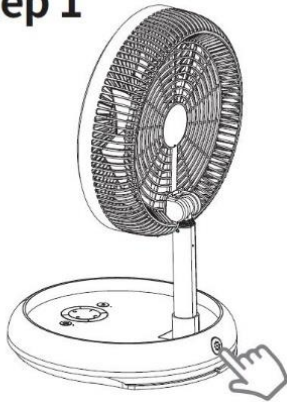
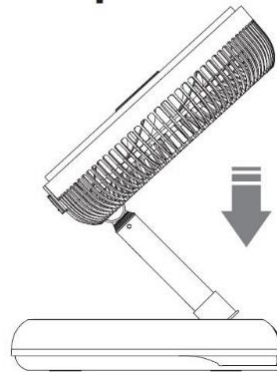

Figure 7
Figure 8
- Hold the fan and press the button to unlock (Figure 7), then fold the fan accordingly (Figure 8).